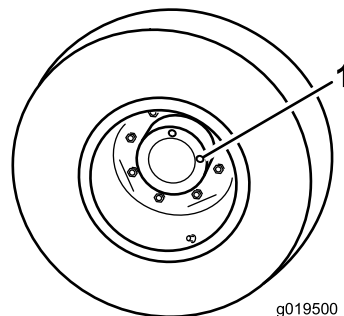

Figure 104
1. With machine on level surface, position the wheel so 1 check plug is at the 12 o'clock position and the other is at 3 o'clock position (Figure 104).
1. Check/drain plug (2)
- Remove the plug at the 3 o'clock position (Figure 104).